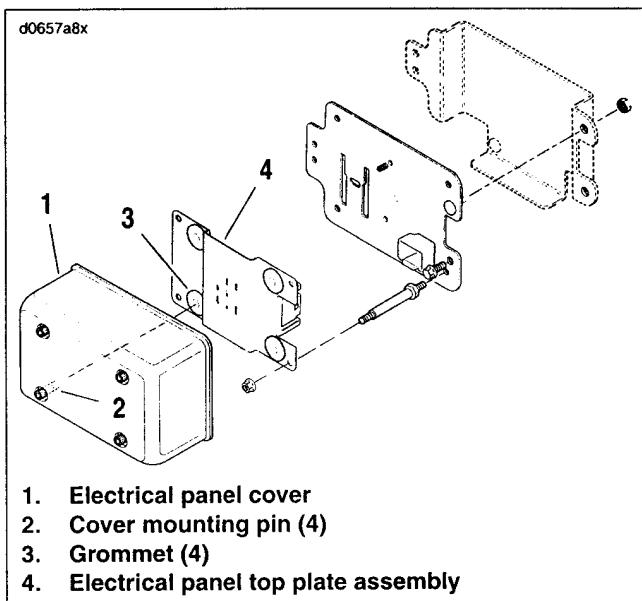

Figure 8-20. Accessing Fuse Block
1. See Figure 8-20. Pull electrical panel cover (1) away from grommets (3). No tools are necessary for this step.